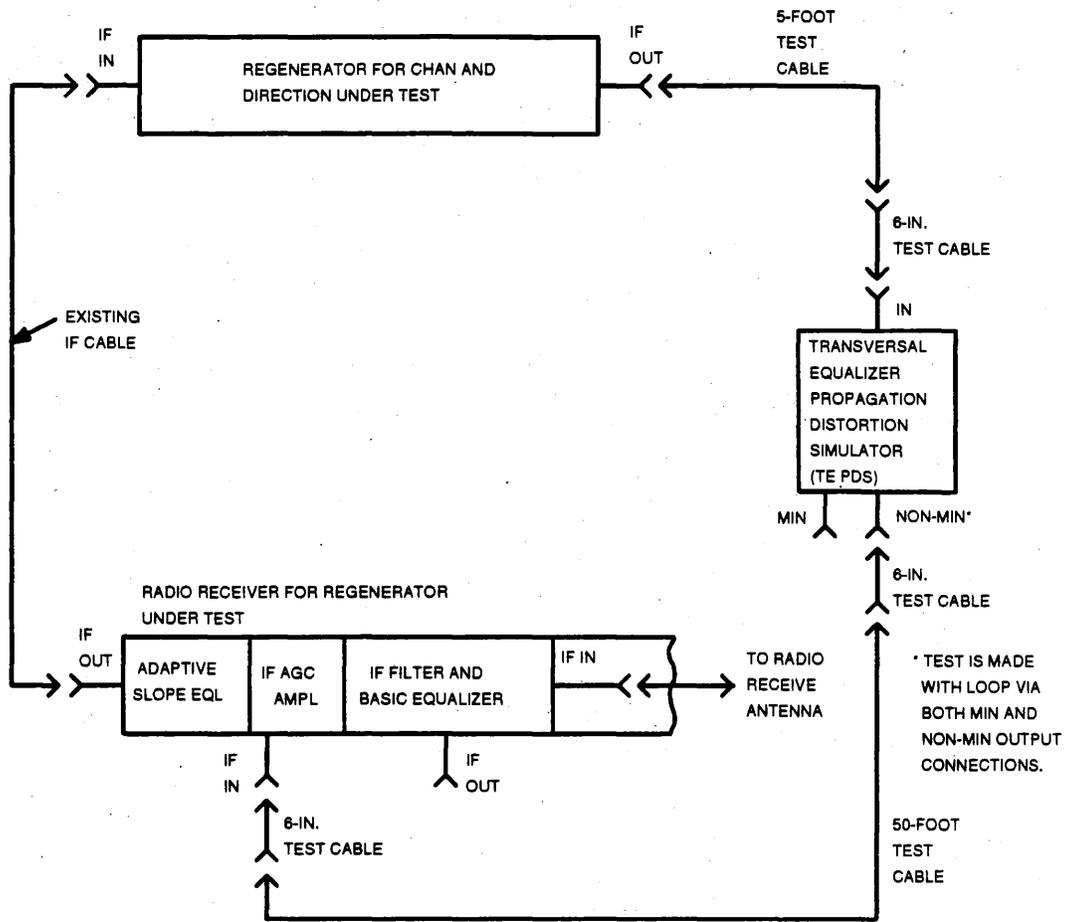

Figure 4-IF Loopback TE Performance Check Connections
The test configuration for the TE dynamic stress procedure is shown in Figure 4. The test procedure will vary depending on the type of digital transmitter/receiver configuration. There are three configurations of digital equipment:
- Refer to Figure 4.
3. Establish the test connections shown in Figure 4.